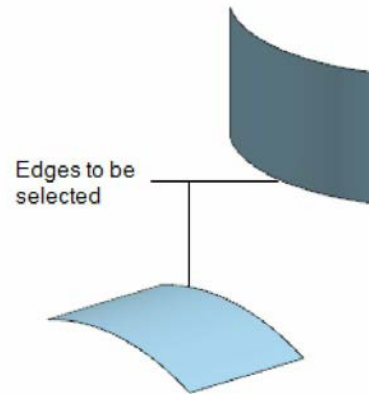

Figure 11-38 Edges to be selected
2. By default, the **Select Edge 1** area is activated in the **Edges** rollout and you will be prompted to select a face near an edge or an edge. Select the first edge and the second edge, refer to Figure 11-38.